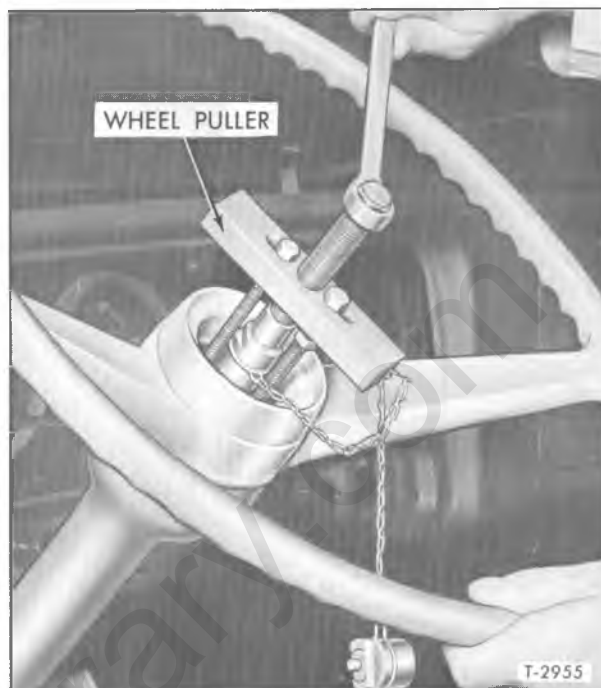

Figure 2—Checking Pump Hydraulic Pressure (Slipper Type Pump) (Typical)
1. Disconnect hydraulic pump to steering gear pressure line at pump. Connect a 0 to 2000 psi pressure gauge (J-22181) to the pump outlet; then connect a shut-off valve between the pressure gauge and pressure line (fig. 2). Make sure all connections are tight and that shut-off valve is fully open.